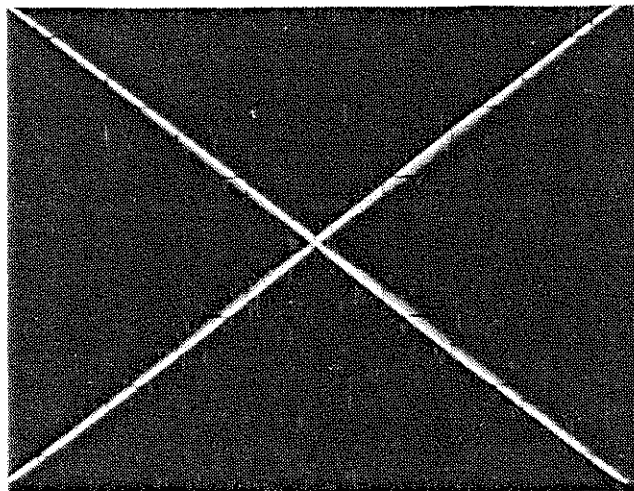

Fig. 4-22 Y-T waveform
- g. CHECK for the Monitor display shown in Figure 4-22.